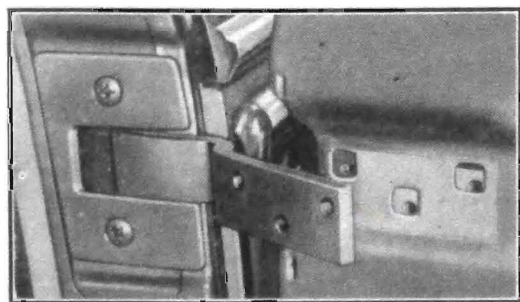

Fig. 1-91. How door hinges are adjusted, showing the in and out adjustment at box part of hinge and body pillar.
2. To move the door forward or backward to equalize the vertical spacing at either the hinge or lock side of the door, or to move the door up or down to correct the spacing at top of door, remove the door trim pad and carefully loosen the hinge strap screws just enough to barely move the door. After moving the door the desired amount retighten the screws. Again the lower section of the door only may be moved forward or back by loosening only the lower hinge strap and tightening again. The same adjustment may likewise be made at the top section of the door by loosening only the upper hinge strap. See Fig. 1-91.